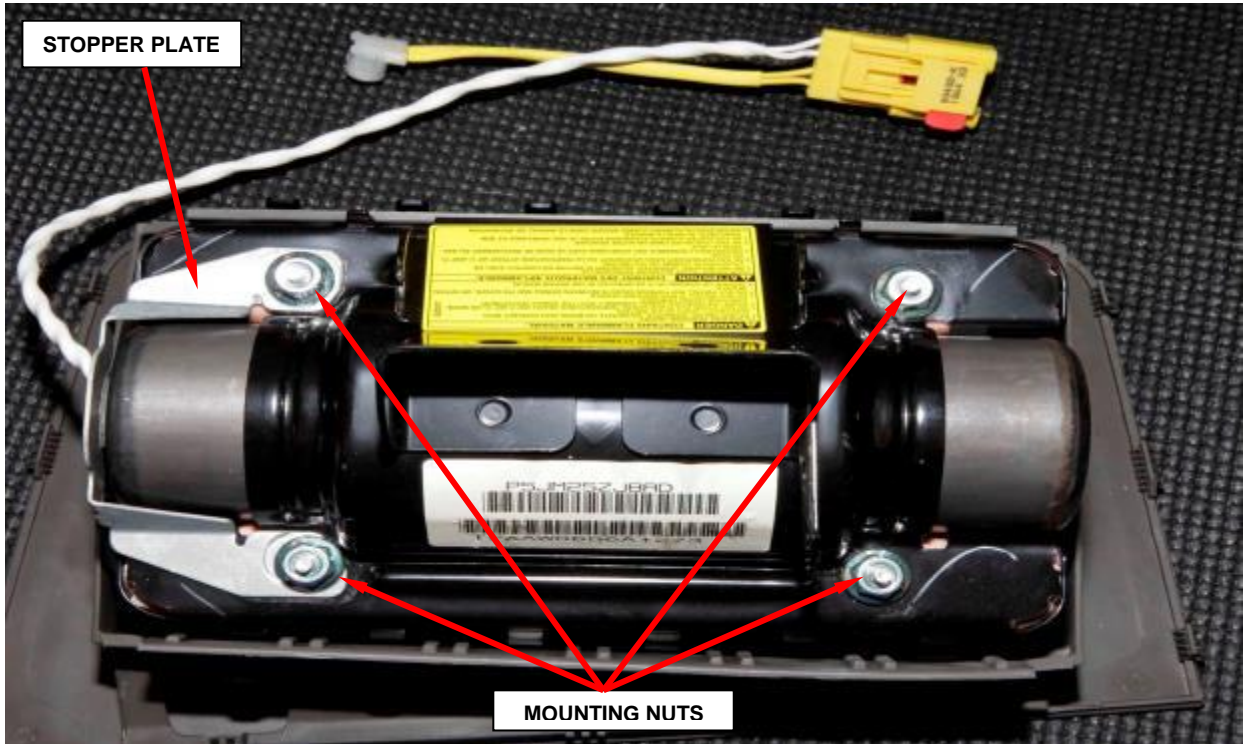

Figure 107 – Mounting Nuts and Stopper Plate
e. Remove and discard the four mounting nuts and stopper plate from the passenger airbag module (Figure 107).